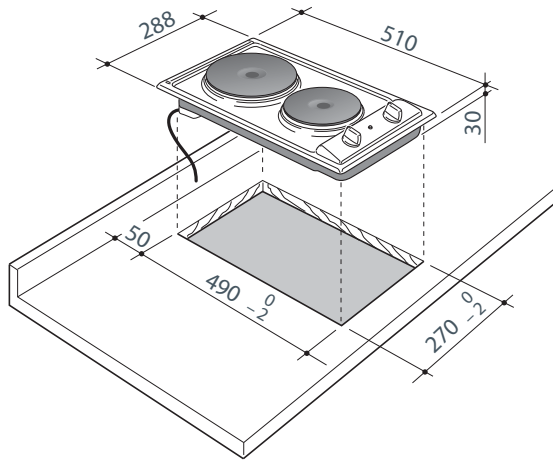
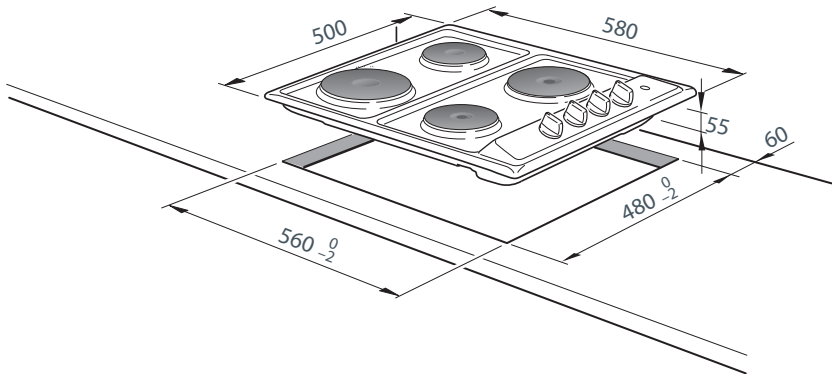

Fig. 3 CE302 models product and cutout dimensions
Fig. 4 CE604 models product and cutout dimensions
- 1 Create a cutout according to the dimensions in Fig.3 or Fig.4.